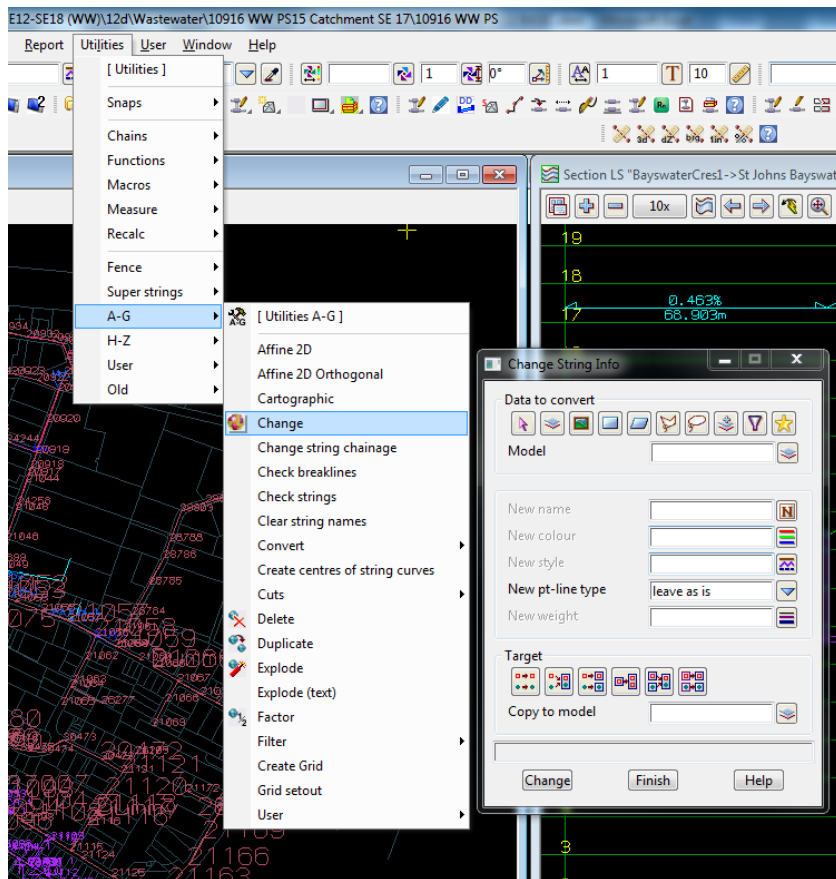
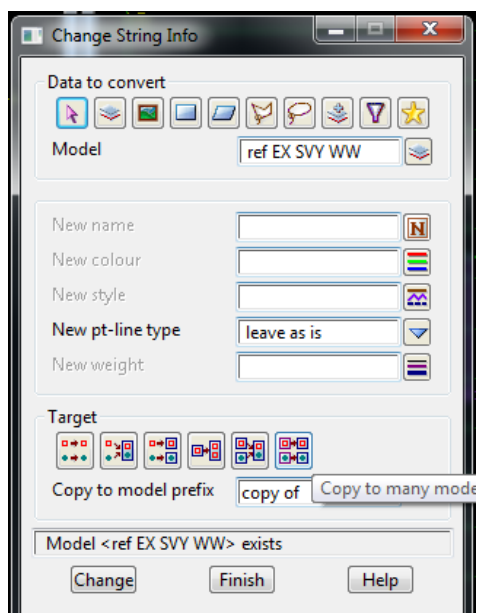

Figure 3 - 12d Screenshot 1
Figure 4 - 12d Screenshot 2
- Create a copy of the network -> Utilities -> A-G -> Change -> Select the WW or SW survey model, press the copy to many models button, enter "copy of" into copy to model box, press change then finish. A screenshot of this process is located in Figure 3 and Figure 4 below.